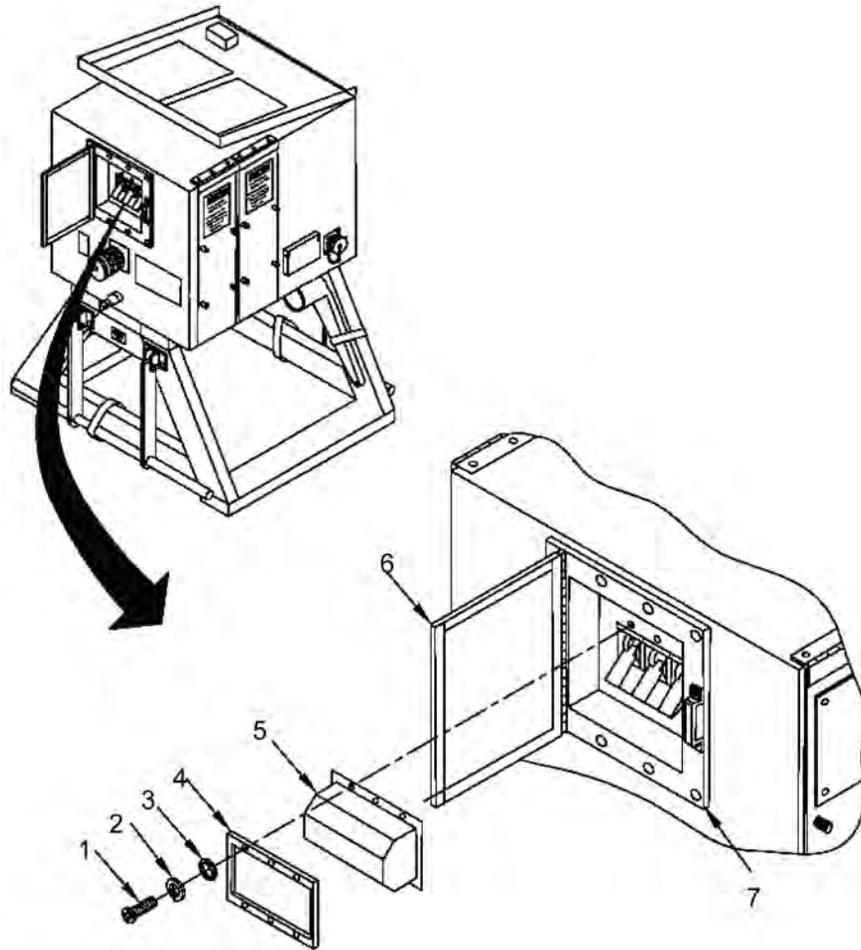

Figure 1. Protective Boot, Circuit Breaker CB5.
4. Unlatch and open rear access cover (Figure 1, Item 6), on rear panel and secure in open position.
5. Position protective boot (Figure 1, Item 5) and boot bezel (Figure 1, Item 4) on rear entrance panel (Figure 1, Item 7) and secure it by installing six flat washers (Figure 1, Item 3), six lock washers (Figure 1, Item 2) and six screws (Figure 1, Item 1).
6. Close and latch rear access cover (Figure 1, Item 6).